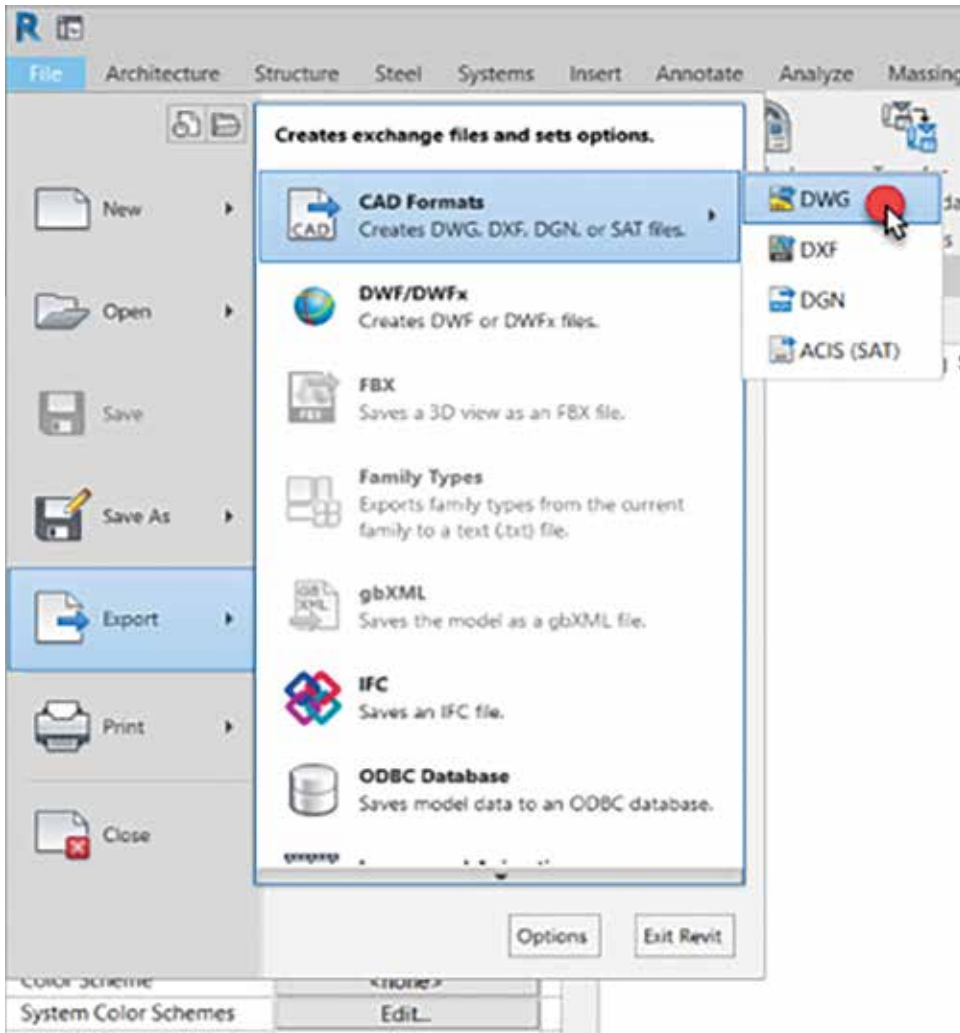

Figure 7
16. To verify you've done this correctly go to File > Export > CAD Export > DWG. This should export the site view used to bring everything in with the civil plan (Figure 7).